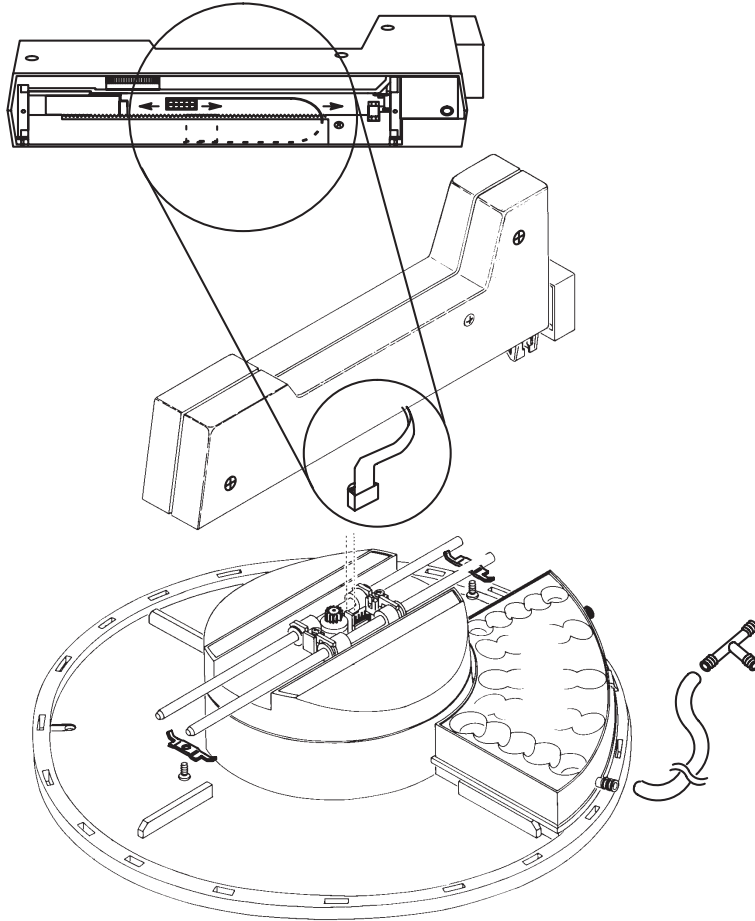

Figure 3. R-flex cable placement
3. Gently move the tray arm back and forth (radial axis). Make sure the R-flex circuit bends back on itself and does not rub against the teeth or racks of the tray arm (see Figure 3).